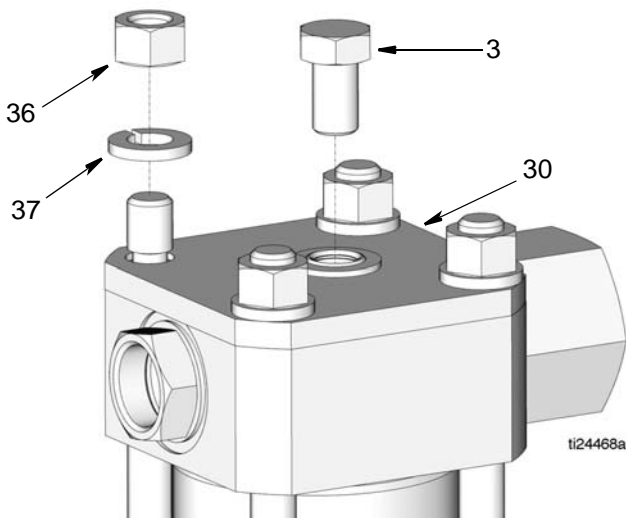

FIG. 19
- Remove cap plate (30) (FIG. 19).
- Use a rubber or plastic head mallet to tap the bottom of the displacement rod (35) and loosen cylinder (25).
- Grasp top of cylinder cap (31) and pull the displacement rod (35) out of the cylinder (25). Lay assembly on its side.